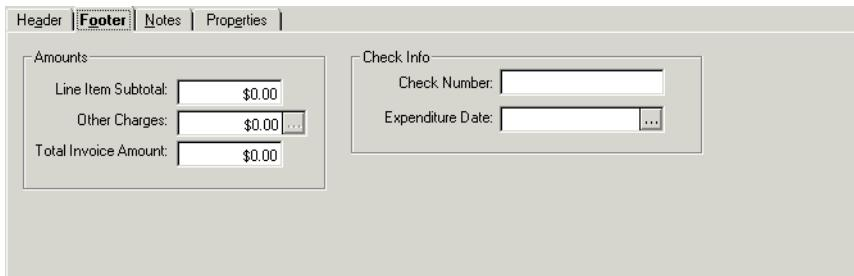

Figure 12-12. Footer tab
- Add footer information to a new invoice. Click the **Footer** tab (see Figure 12-12).